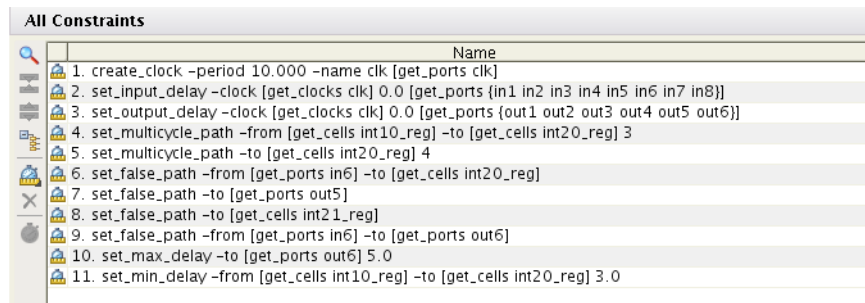

Figure 1-40: Constraints Window Displaying Timing Constraint Changes
The Constraints window displays the timing constraints applied to the design, as shown in Figure 1-40.
- The *Position* column indicates the constraint position number. This is the same position number reported by the Timing Constraint Window, shown in Figure 1-40.